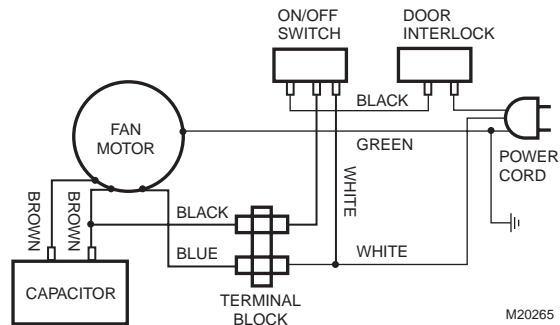

Fig. 5. F500 internal wiring diagram.
10. Observe the battery LCD (see Fig.5):